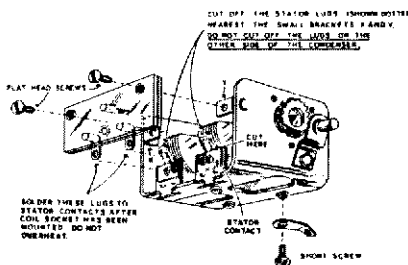

Figure 3
- () Study Figure 3 and cut off the two stator lugs indicated. These lugs (shown dotted) are nearest the small brackets which are riveted to the condenser frame.
- () Solder the two outside coil socket lugs to the nearby stator contact as shown in Figure 3.
- () Mount the coil socket on the tuning condenser frame as shown in Figure 3. Use two 6-32 flat head screws.
- () Place a length of bare wire between solder lug and unused coil socket prong (S).
- () Mount another solder lug on the tuning condenser frame as shown in Figure 3. Use a short 6-32 screw.